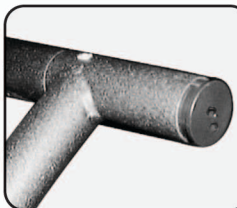

Fig. 1
- Replace the bushing first, making sure the notch in each bushing is seated properly over the bump on the inside wall of the tube. (Fig. 1 & 1a) You'll need to use the hammer to seat the bushing all the way the way inside the tube. Be careful not to use too much force or the bushing could break.